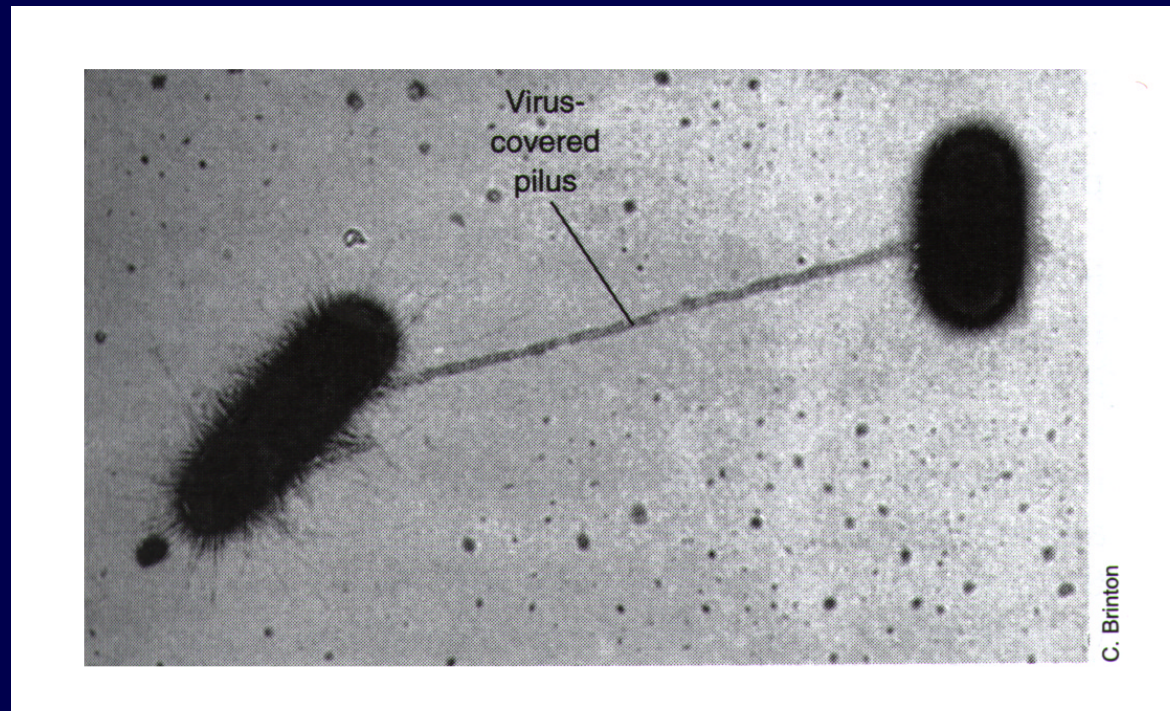

Figure 9: Conjugation in *E. coli* (from [5]).
- *E. coli* occasionally engage in a type of “**sex**” called “**conjugation**” (Figure 9)